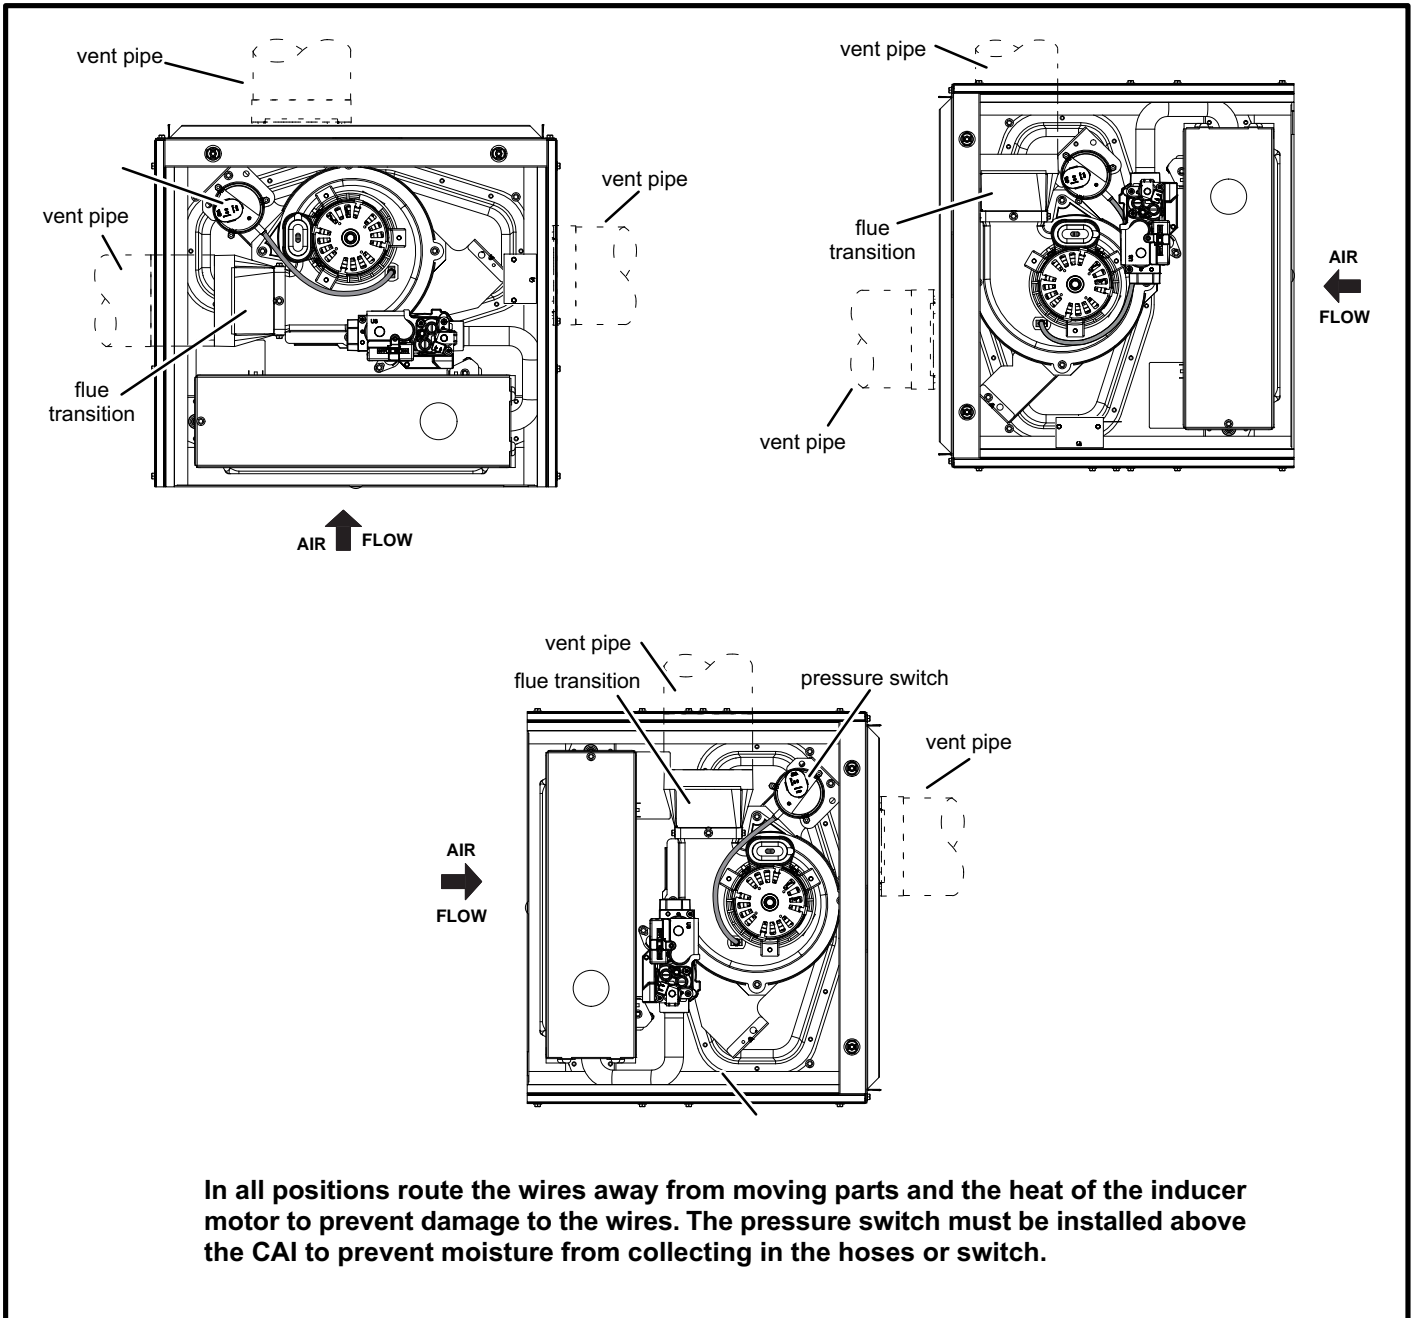

FIGURE 16
The SL280UHV(X) furnace can vent in multiple positions. See figure 16.